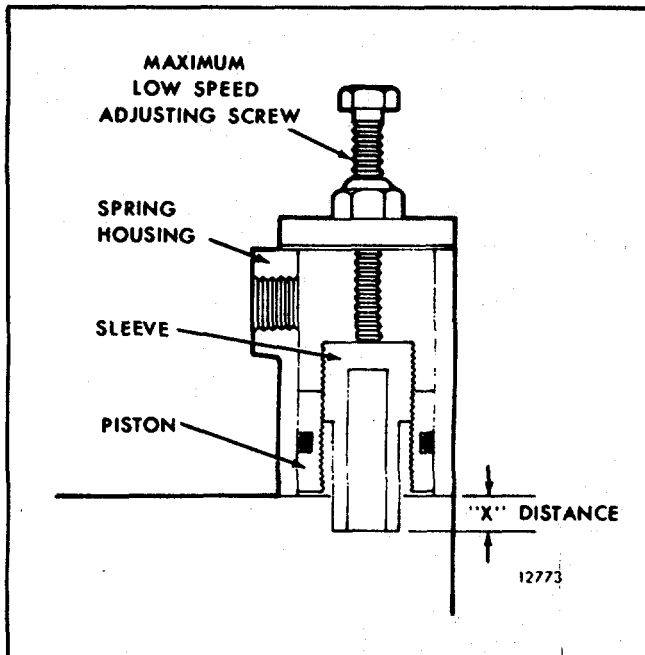

FIG. 8 - Early Dual Range Governor (Top View)
EARLY DUAL RANGE GOVERNOR (Fig. 8)
- c. Stop the engine and remove the spring housing assembly. Note the distance ("X" distance, Fig. 8) the sleeve extends beyond the spring housing.
- e. Thread the piston on the sleeve until the sleeve extends the same distance ("X" distance, Fig. 8) beyond the piston as the sleeve extends beyond the spring housing.